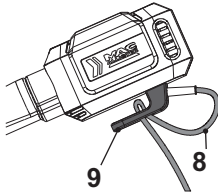

Fig. 10
1. Double the power cord (8) back, about 50 cm from the power guard and lead the loop through the hole. Pull it over the cord retainer (9) and gently tug on the power cord (8) to ensure that it is firmly secured (Figs. 10, 11).